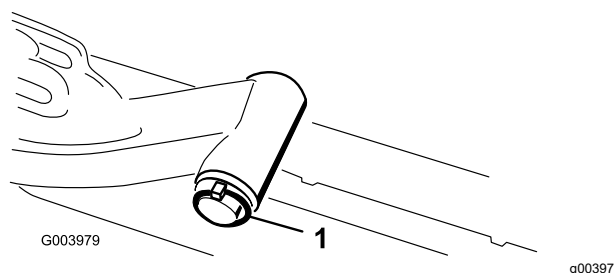

Figure 18
- A. Remove the lynch pin and washer securing the lift arm pivot shaft to the lift arm and slide the lift arm pivot shaft out of the lift arm (Figure 18).
- C. Insert the lift arm shaft into the lift arm and secure it with the washer and lynch pin (Figure 18).